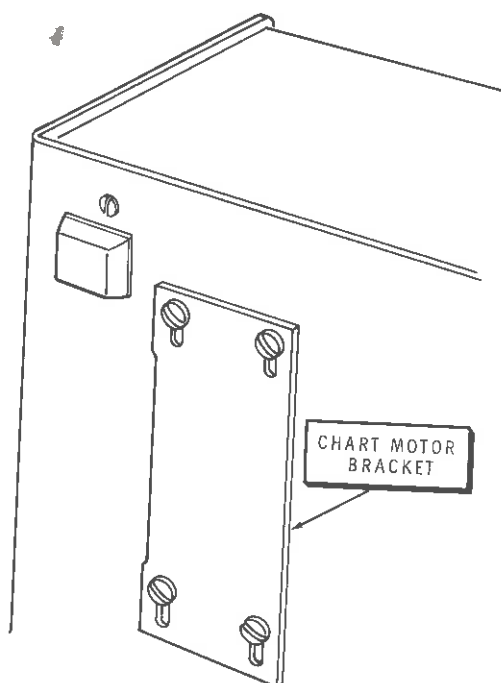

Figure 24
- A. Refer to Figure 24 and loosen the chart motor bracket screws.